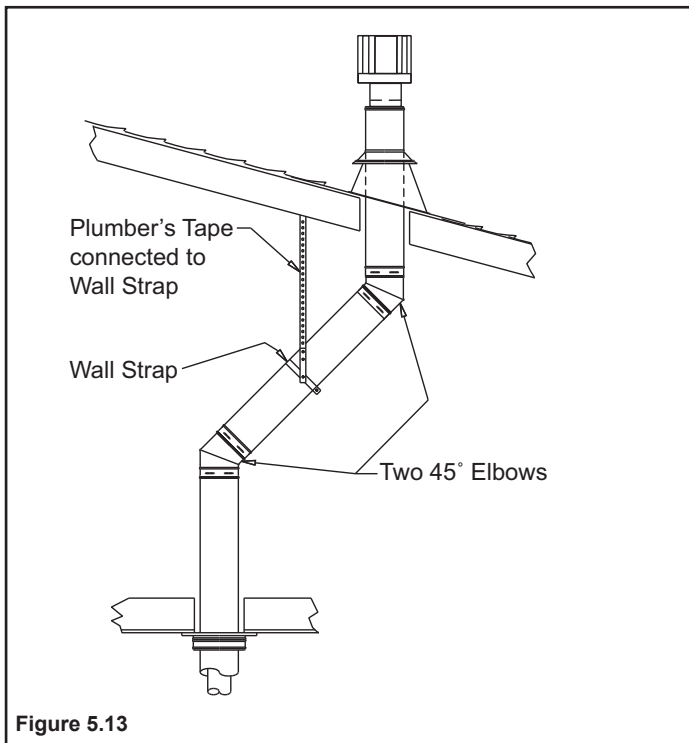

Figure 5.13
Set the gas appliance in its desired location. Drop a plumb bob down from the ceiling to the position of the appliance flue exit, and mark the location where the vent will penetrate the ceiling. Drill a small hole at this point. Next, drop a plumb bob from the roof to the hole previously drilled in the ceiling, and mark the spot where the vent will penetrate the roof. Determine if ceiling joists, roof rafters, or other framing will obstruct the venting system. You may wish to relocate the appliance, or to offset, as shown in **Figure 5.13 on page 16**, to avoid cutting loadbearing members. When location is determined, drill small hole.
- (1) If an offset is necessary in the attic to avoid obstructions, it is important to support the vent pipe every 3 ft. (914mm) to avoid excessive stress on the elbows, and possible separation. Wall straps are available for this purpose, **Figure 5.13**.
- (2) Whenever possible, use 45° elbows, instead of 90° elbows. The 45° elbow offers less restriction to the flow of flue gases and intake air.